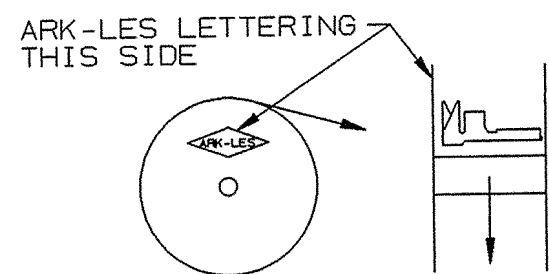

FIGURE 1
7. FOR STANDARD REELING SEE FIGURE 1.